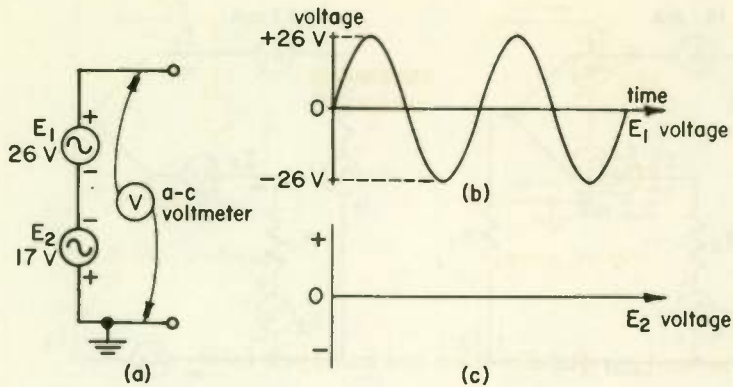

Fig. 9
- Figure 9(a) shows two a-c voltages connected in series. Part (b) of the figure shows the waveform of E_1 . Draw in part (c) the waveform for E_2 to show the correct phase relationship between the two waves.
- If in Fig. 9(a) E_1 is 26 V and E_2 is 17 V, the a-c voltmeter will read _____ volts.
- Draw an equivalent a-c generator to replace E_1 and E_2 in Fig. 9, showing one terminal grounded and also showing terminal polarity. Draw a current arrow showing the direction of current from the equivalent generator if a load were connected.